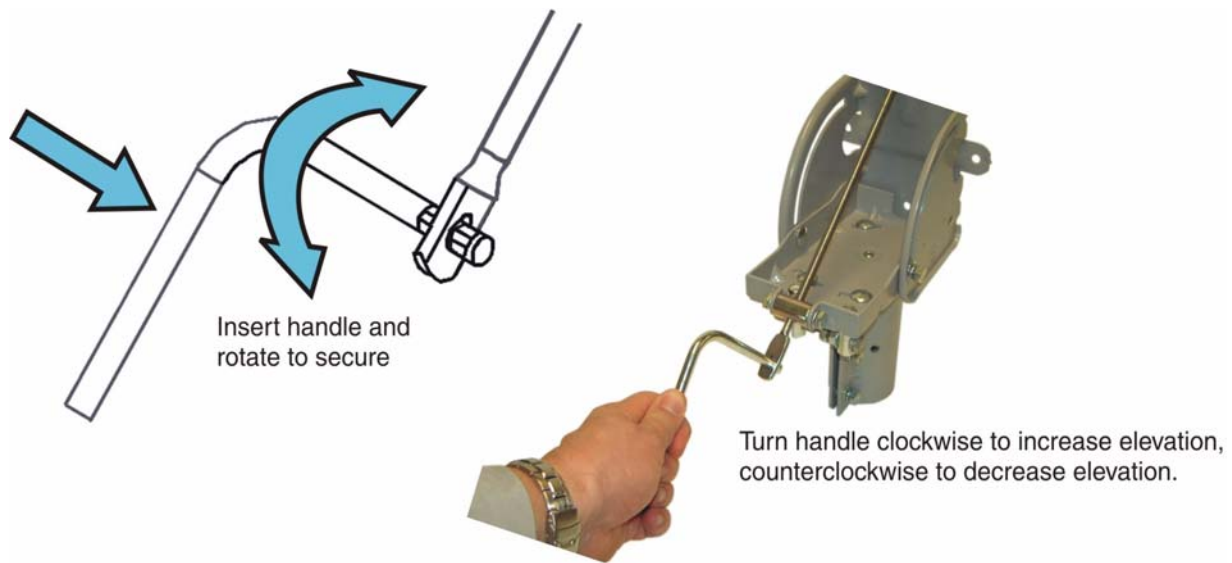

Figure 32: Adjusting the elevation
2. Insert the elevation handle into the hole at the bottom of the elevation adjustment tool as shown in Figure 32 and rotate it 90° to lock it in place.